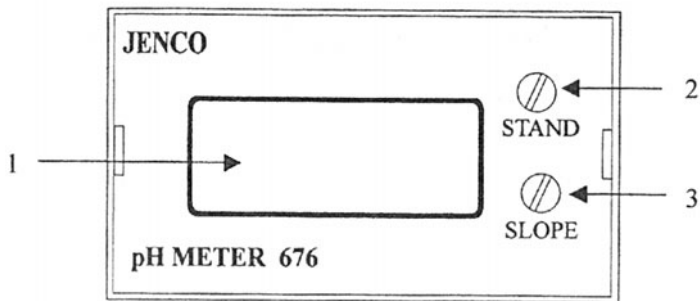

Figure 1
3. Put the electrode into a pH7.00 or 6.86 solution, adjust the STAND control (see Figure 1) until it displays pH7.00 or 6.86(The electrode head should be immersed in the standard solution).
5. Put the electrode into a pH 4.00 solution , adjust the SLOPE (see Figure 1) until it displays pH4.00.